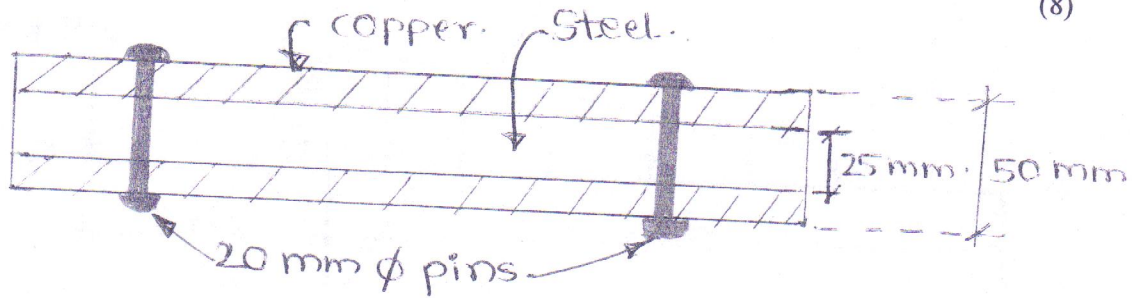

Fig. Q.1(a).
Q.1(b) Draw Mohr's circle for each element subjected to the state of stress as shown in Fig.Q.1(b)